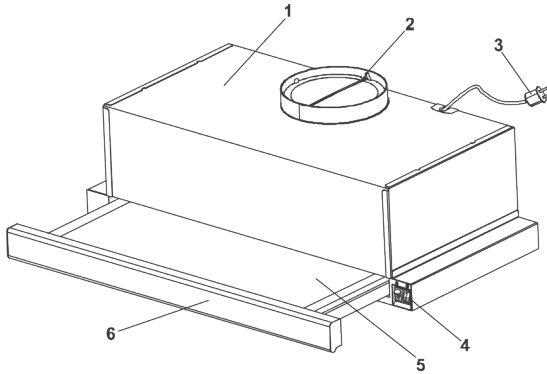
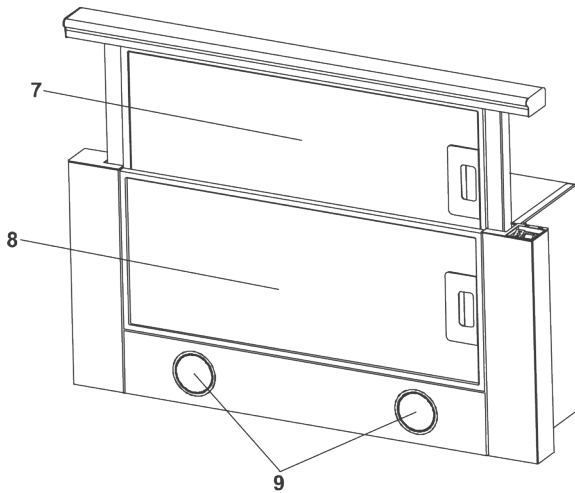

Fig. 3
Fig. 3.1
5.4 The cooker hood consists of the following components (Fig. 3/Fig. 3.1):